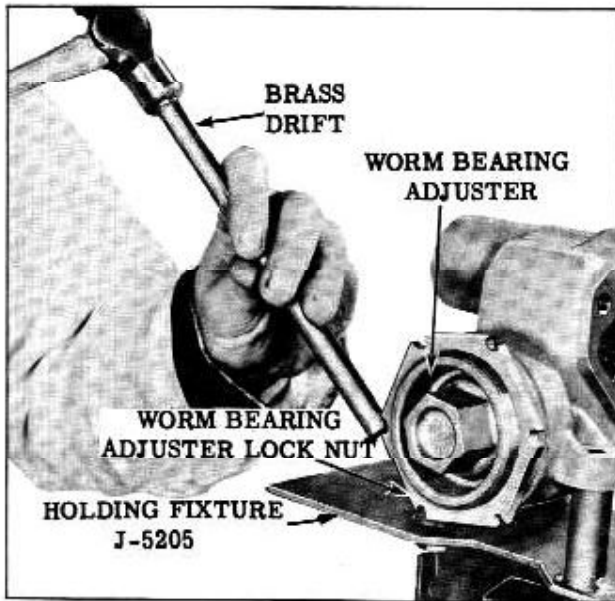

Fig. 4-6 Loosening Lock Nut
- The pull required should be between 1/2 and 7/8 pounds. If it is not, it will be necessary to loosen the worm bearing adjuster lock nut with a brass drift (Fig. 4-6) and turn the worm bearing adjuster the required amount to bring the spring pull within limits.